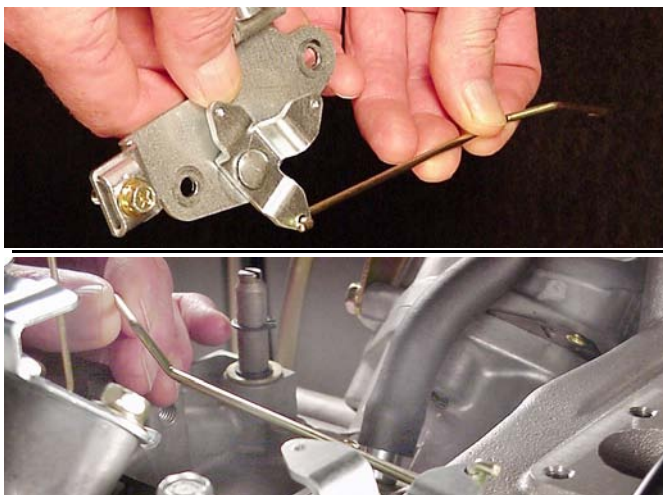

Fig. 162
2. Assemble governor link to governor bracket and install governor control bracket, Fig. 162. Torque screws to 70 in. lbs. (8.0 Nm).